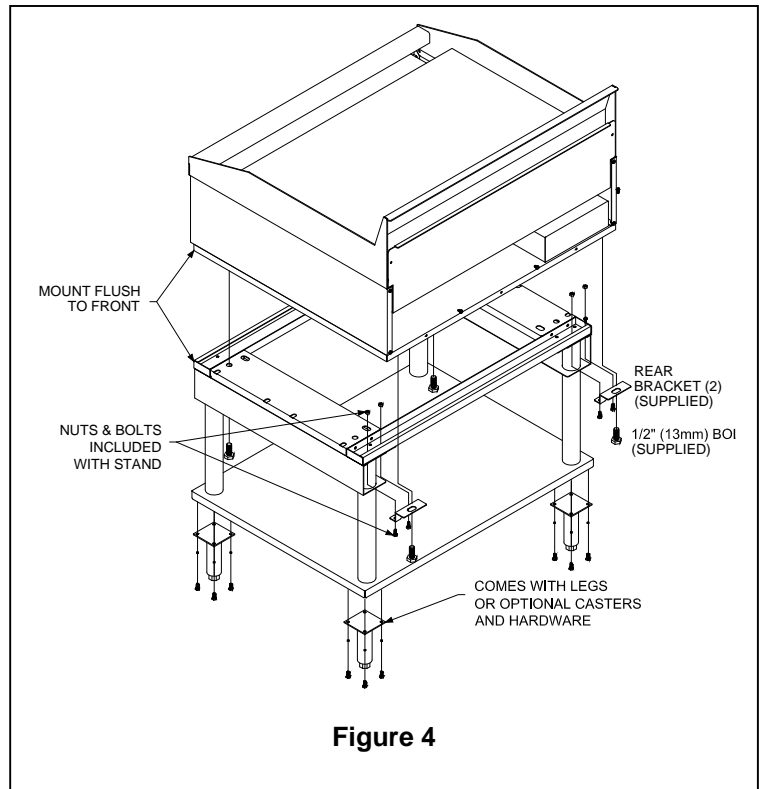

Figure 4
(See Figure 4). To mount the griddle to the stand, locate joining kit supplied with stand. The joining kit should include (2) rear mounting brackets, and (4) 1/2" (13mm) mounting bolts. To mount the griddle to the equipment perform the steps on the following page: